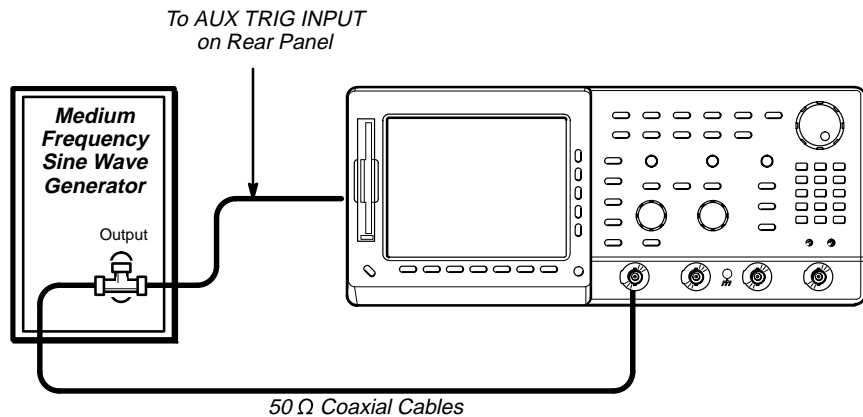

Figure 1-19: Initial Test Hookup—TDS 540A or 544A Only
- TDS 540A or 544A only: Connect the signal output of a medium-frequency sine wave generator to a BNC T connector. Connect one output of the T connector to **CH 1** through a 50 Ω precision coaxial cable; connect the other output of the T connector to the **AUX TRIG INPUT** at the rear panel. See Figure 1-19.